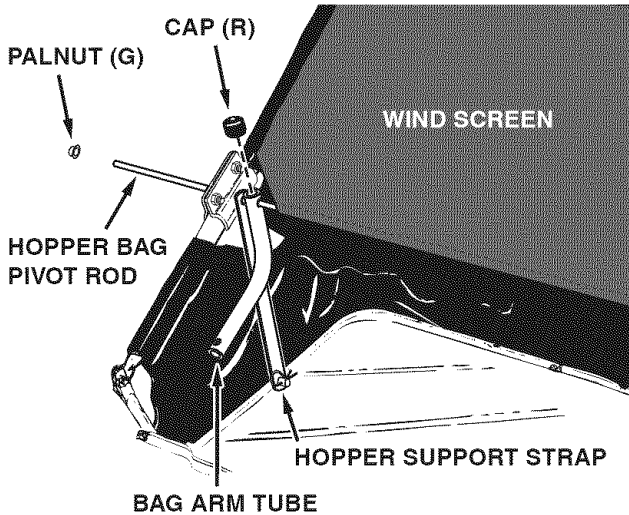

FIGURE 16
- Slide the end of the hopper bag pivot rod through one upper hopper tube with hopper mount clamps. Place the hopper support strap and a bag arm tube onto the rod. Slide rod through the stitched sleeve at the front edge of the wind screen. Place the other bag arm tube and hopper support strap onto the rod. Slide the end of the rod through the other upper hopper tube with hopper mount clamps. See figure 16.
- Assemble two palnuts (G) by lightly tapping them onto the ends of the pivot rod with a hammer. See figure 16.
- Assemble a vinyl cap (R) onto each bag arm tube as shown in figure 16.